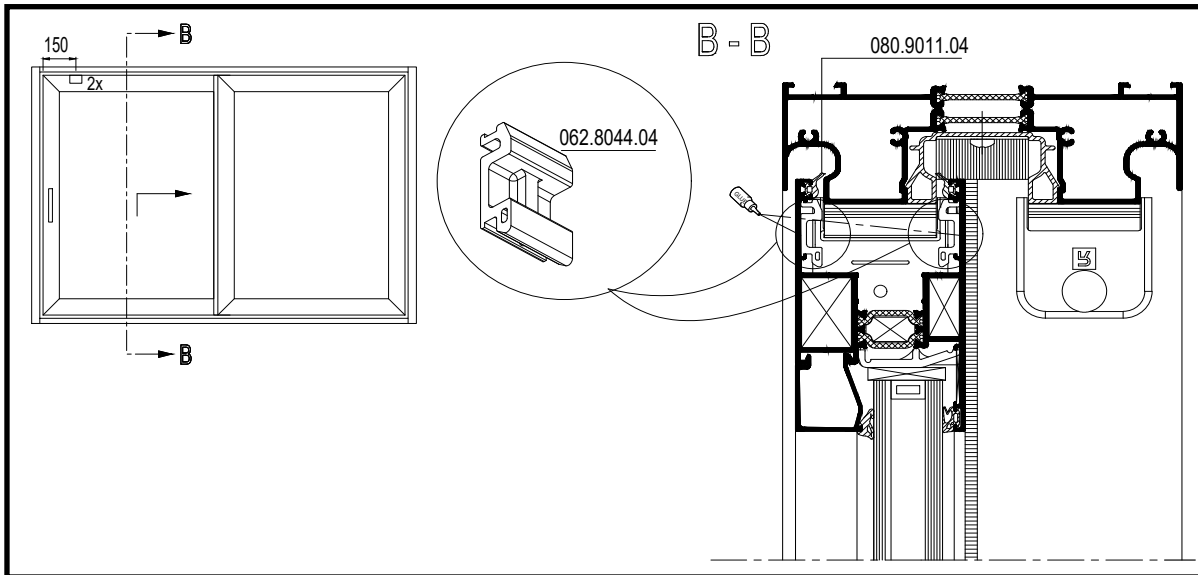

Fig. 12
For lift and slide doors, the distance pieces should have been fitted in the factory on both the inside and outside of the moving panel as shown in Fig 12.
* Note that the orientation changes from Fig 12 when it is used on standard sliding doors.